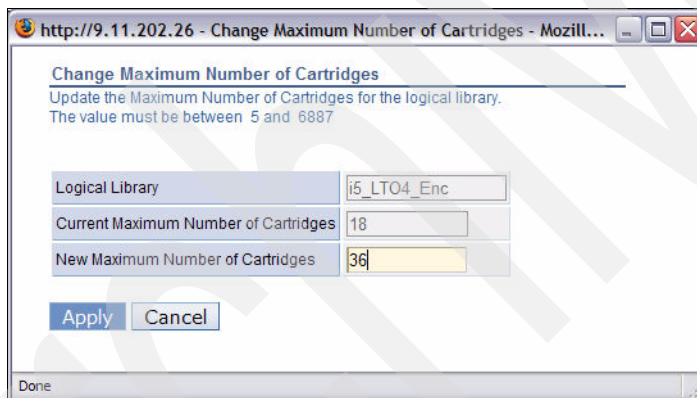

Figure 2-64 Change Maximum Number of Cartridges window
3. After clicking **Continue**, enter the new maximum number of cartridges as shown Figure 2-64 and click **Apply**.